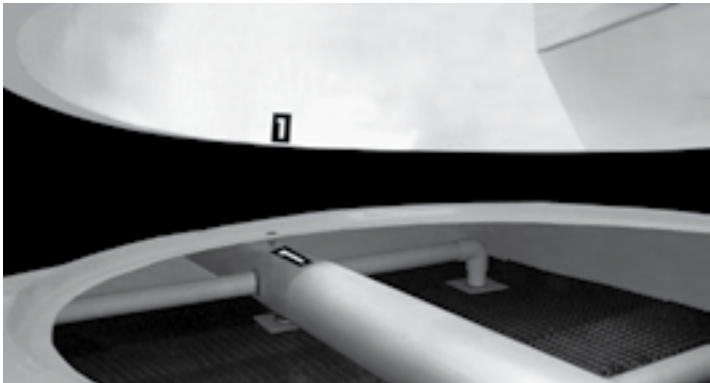
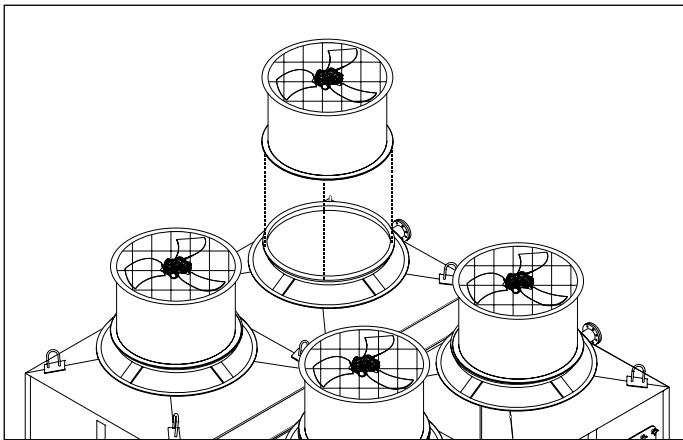

Figure A-129: Fan Duct alignment
Figure A-130: Fan Duct installation on a fan adaptor for a Four Fan Tower
- D. If there is more than one fan, follow the same instructions from previous step to install remaining Fan Ducts (see an example in Figure A-130). Each fan duct is labeled with a number on the inside of the lower edge; for a correct installation, this number must match the number on the corresponding fan adaptor (see Figure A-129).